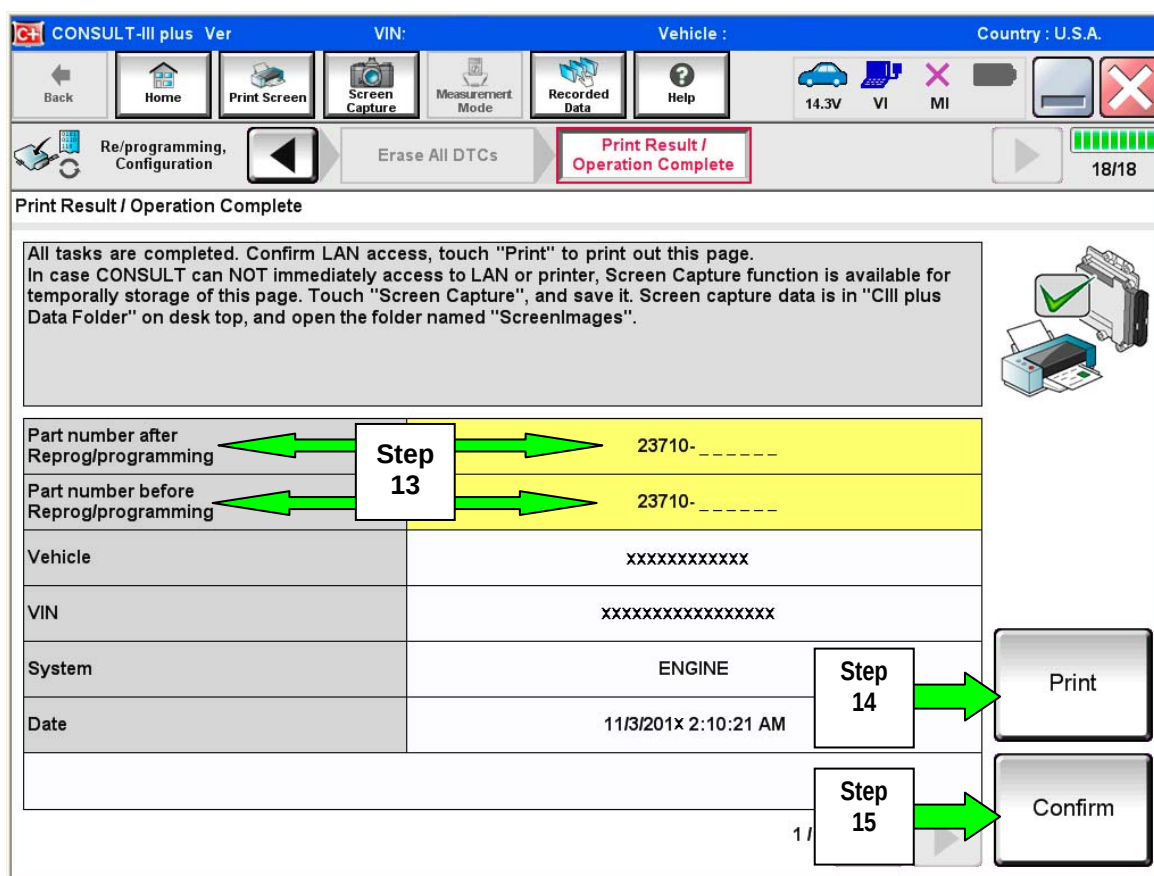

Figure 5
11. When the entire reprogramming process is complete (**TRANSMISSION** or **ENGINE**), the screen in Figure 5 will display.
14. Print a copy of this screen (Figure 5) and attach it to the repair order for warranty documentation.